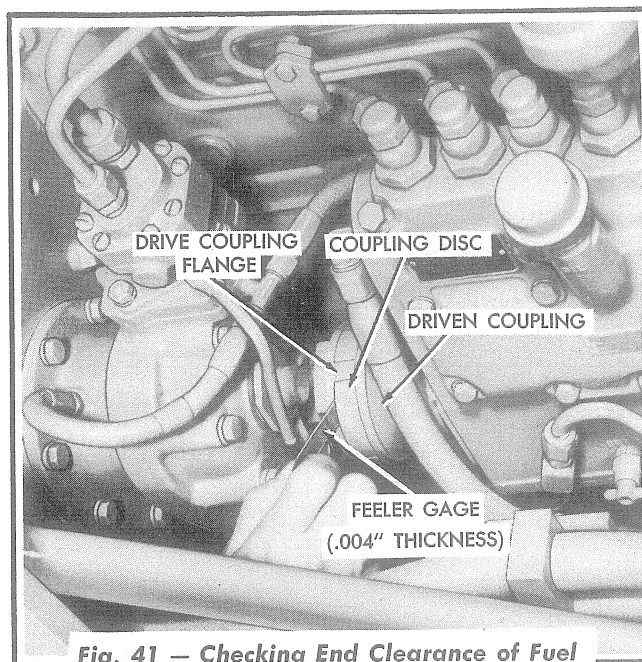

Fig. 41 — Checking End Clearance of Fuel Injection Pump Drive Coupling (Tractors Prior to Serial No. 4001)
f. Try the fuel injection pump coupling disc (Fig. 41) on both the driven coupling and the drive coupling flange to see if the coupling disc fits smoothly on the flanges of the coupling members. Check the fit of the coupling disc with the driven coupling and the drive coupling flange; the clearance between the slots of the coupling disc and the driving lugs of the coupling must not exceed .007" to .008". If the clearance at these points is excessive, replace the coupling disc.
- k. A clearance of .004" should be provided between the coupling disc and the drive coupling flange, so that the coupling disc can move transversely to allow for slight misalignment of the pump with the accessory drive. Insert a .004" thickness feeler gage between the drive coupling flange and the coupling disc as shown in Fig. 41, then move the pump as necessary to obtain this clearance. **IMPORTANT:** Make certain that this .004" clearance is obtained on both the inner and outer sides (opposite sides) of the coupling.